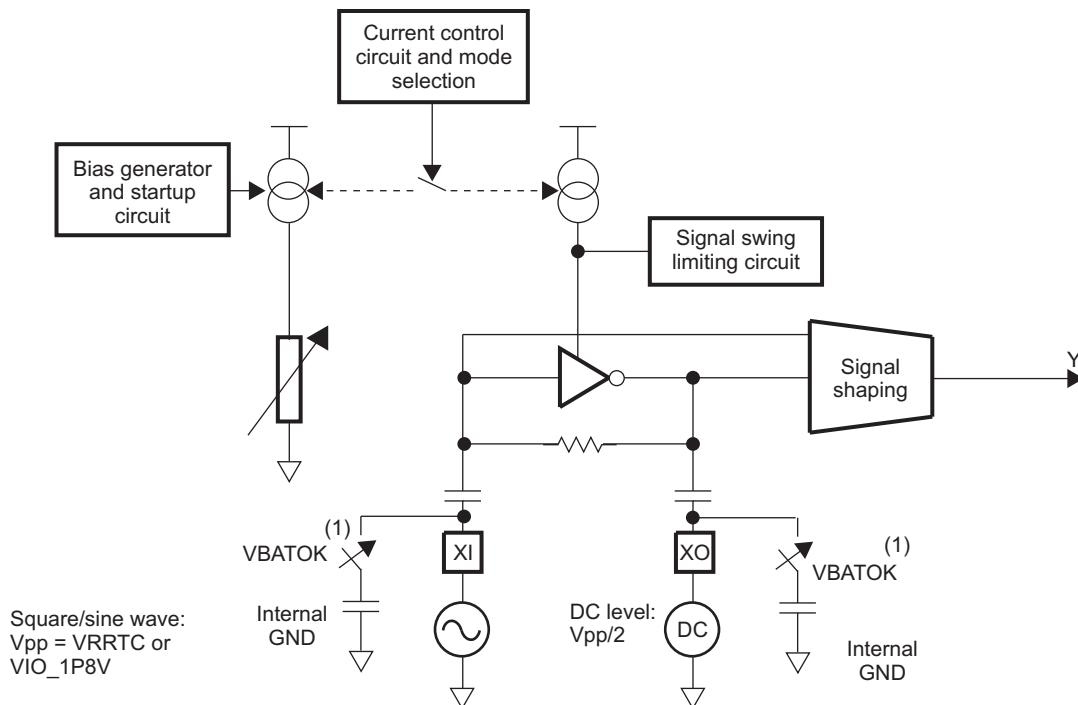

Figure 11-7. 32-kHz Oscillator Block Diagram Without Crystal Option 1
- An external square/sine wave of 32.768 kHz through 32KXIN with amplitude equal to 1.8 or 1.85 V (see Figure 11-7, Figure 11-8, and Figure 11-9). This configuration is available for the master and slave modes (for more information, see Section 12).
- A square- or sine-wave input can be applied to the 32KXIN pin with amplitude of 1.85 or 1.8 V. The 32KXOUT pin can be driven to a dc value of the square- or sine-wave amplitude divided by 2. This configuration, shown in Figure 11-7, is recommended if a large load is applied on the 32KXOUT pin.